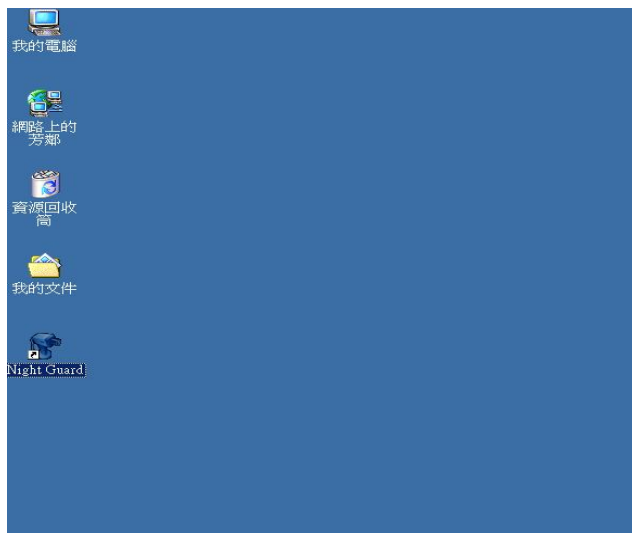

Fig. 12
- Set up the 9336C and 752C of ID code: Plug 752C into a USB port on your PC , 10 seconds later to click Night Guard as show on the screen. Click the Night Guard (Fig. 12) → **Setup** (Fig. 13) →